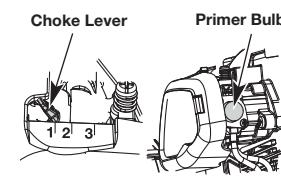

Fig. 5
- Fully press and release the primer bulb 10 times, slowly. Some amount of fuel should be visible in the primer bulb (Fig. 5). If fuel can not be seen in the bulb, press and release the bulb until fuel is visible.
- Place the choke lever in **Position 1** (Fig. 5).
- Place the choke lever in **Position 2** (Fig. 5).
- Continue squeezing the throttle control, move the choke lever to **Position 3** (Fig. 5) and continue warming the engine for an additional 60 seconds. The unit may be used during this time.
IF... the engine hesitates, return the choke lever to **Position 2** (Fig. 5) and continue the warm-up.